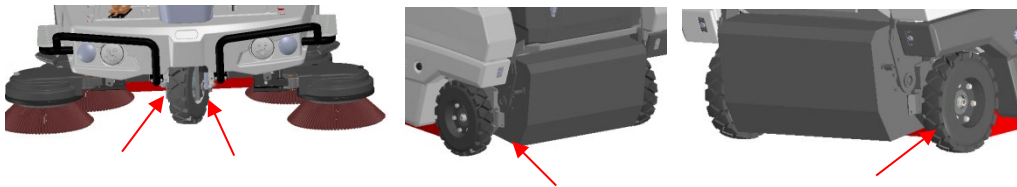

Fig. 25
4. Place an obstacle behind each driving wheel. A wire with a diameter of  $\geq 2\text{mm}$  can be used to bind the reserved hole of the sweeper chassis with the tray (Fig. 25) to prevent the sweeper from sliding.